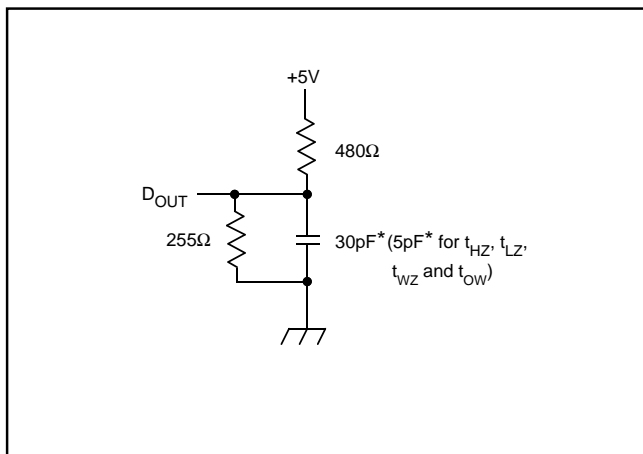

Figure 1. Output Load
7. Transition is measured $\pm 200\text{mV}$ from steady state voltage prior to change with specified loading in Figure 1. This parameter is sampled and not 100% tested.
12. Transition is measured $\pm 200\text{mV}$ from steady state voltage prior to change with specified loading in Figure 1. This parameter is sampled and not 100% tested.
| Output Load | See Figures 1 and 2 |